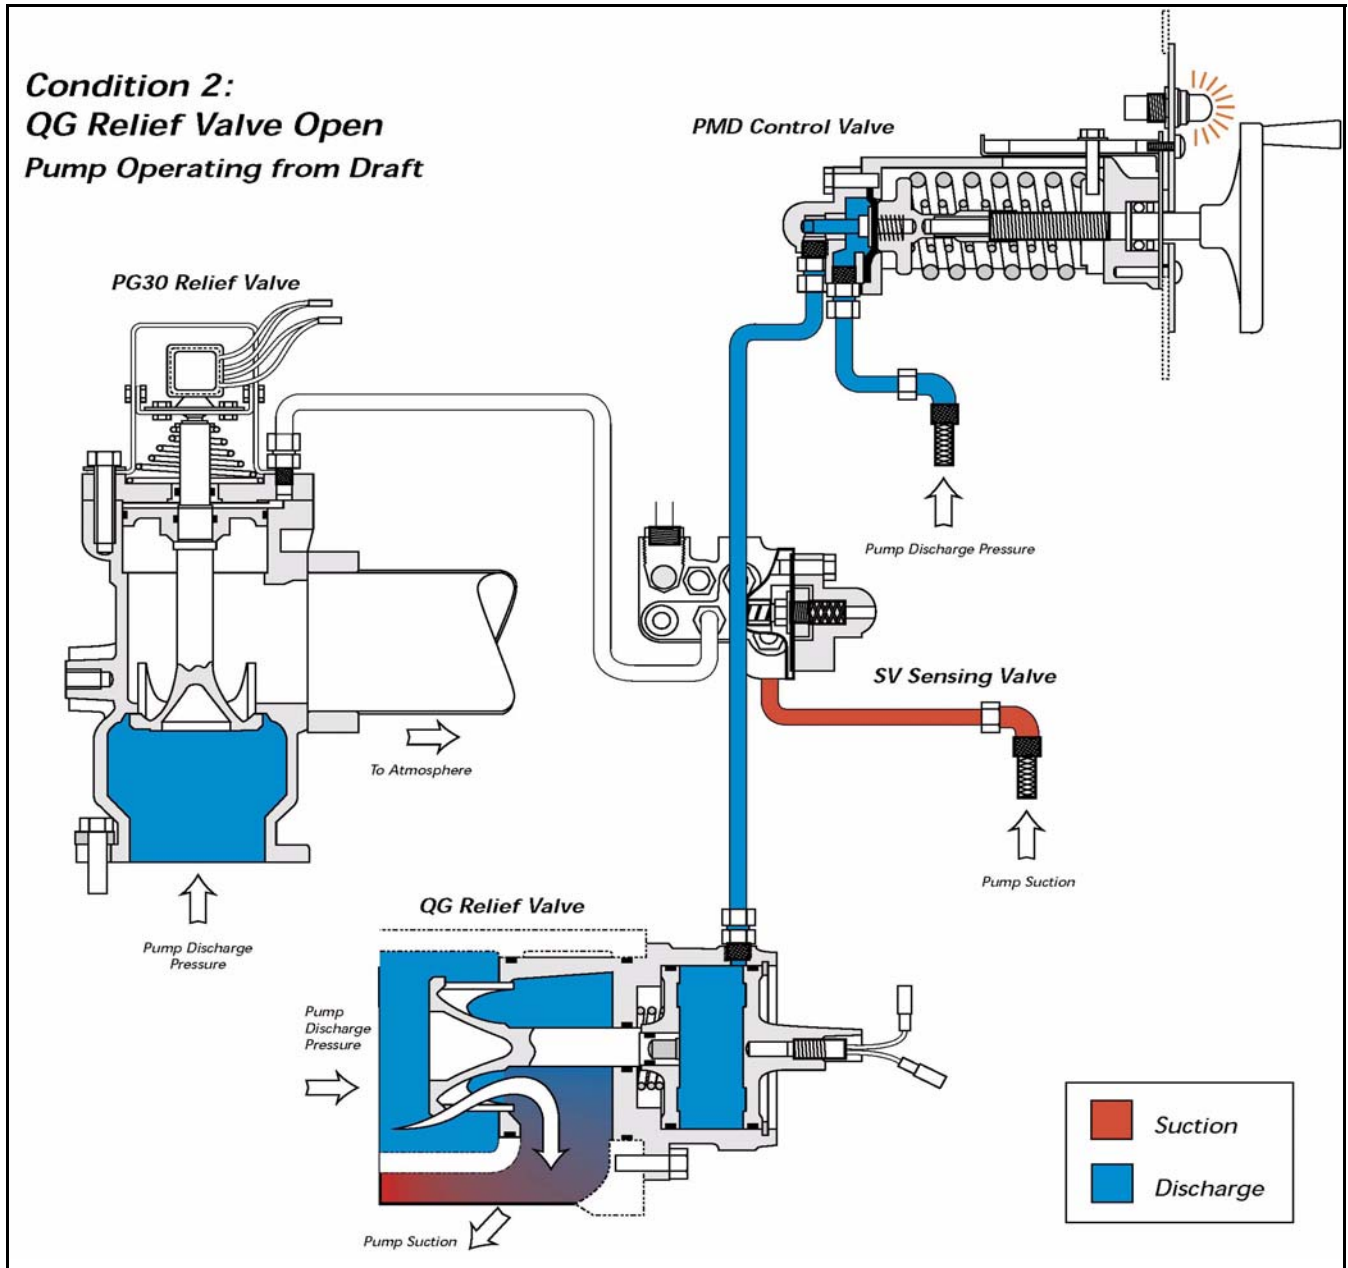

Figure 3-16: Typical TPM Relief Valve System, Condition 2
- Figure 3-16: “Typical TPM Relief Valve System, Condition 2” on page 51